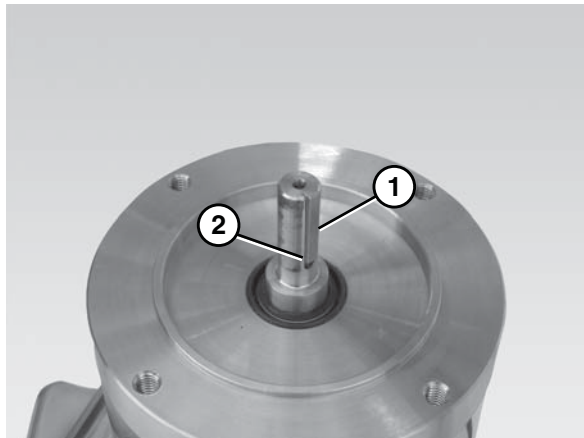

Figure 28
- Insert the gearmotor output shaft key (Figure 28, item 1) into the gearmotor output shaft keyway (Figure 28, item 2).
Ensure the gearmotor output shaft key (Figure 28, item 1) is situated properly before attaching the motor to the gear reducer.